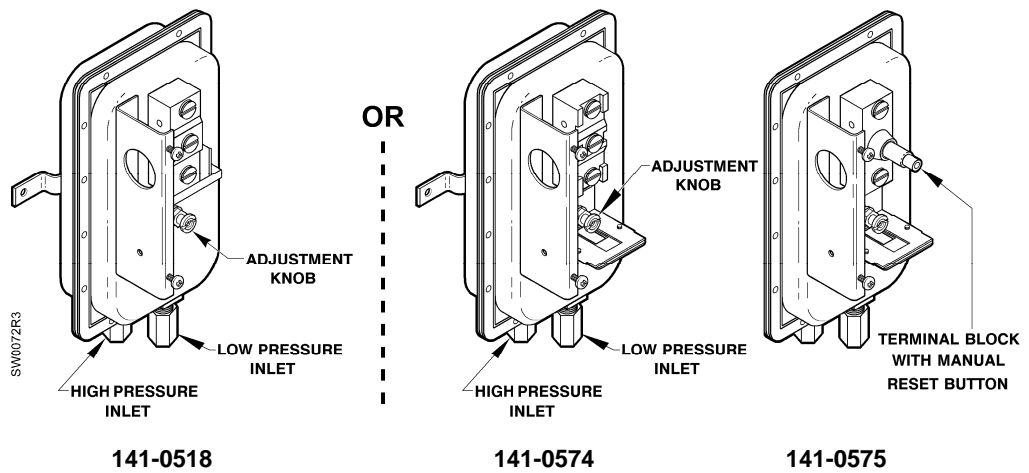
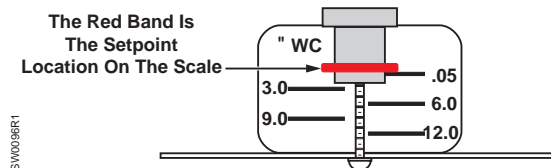

Figure 2. Switches with Covers Removed.
Figure 3. Adjusting the Setpoint.
Connect the static pressure line to the low inlet (marked on the case and Figure 2) and leave the high inlet open to the atmosphere.
Connect the static pressure line to the high inlet (marked on the case and Figure 2) and leave the low inlet open to the atmosphere.
Connect the highest static pressure line to the high inlet and the lowest static pressure line to the low inlet (marked on the case and Figure 2.)
1. To increase the setpoint, turn the adjustment screw clockwise as shown in Figure 2 and Figure 3. From the lowest setpoint, several turns are necessary to engage the adjusting mechanism.